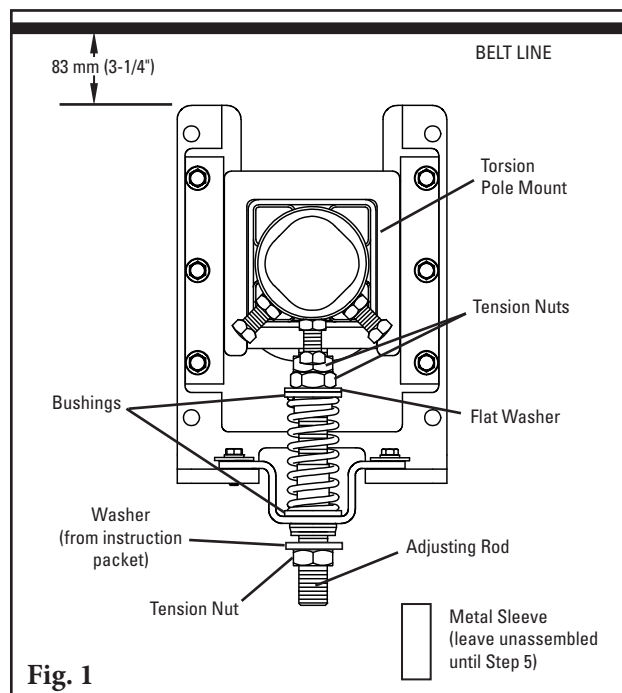

Fig. 1
1. **Reconfigure the standard pull-up tensioner to the push-up style.** Remove the 3 tension nuts, the flat washer, 2 bushings, the spring, the sleeve and the hat bracket; reassemble (Fig. 1) with 2 tension nuts, the flat washer, 2 bushings, the spring and the hat bracket on the upper end of the adjusting rod. Add washer (from instruction packet) and 3rd tension nut to bottom of the adjusting rod.
2. **Install the tensioner mounting bases.** Mount the bases to the structure or chute so that the tops of the base legs are 83 mm (3-1/4") below the belt (Fig. 1).